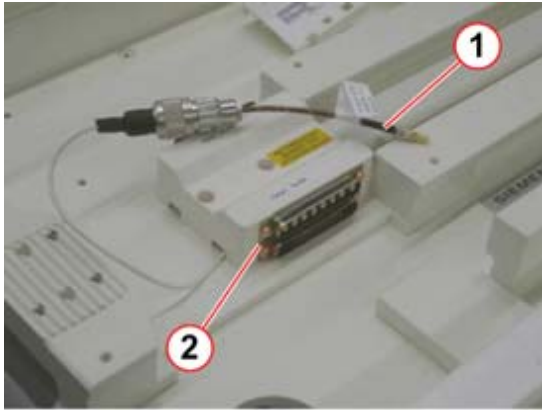

Fig. 37: Additional coax cable has to be connect to position of the plug
- If you have an older typ of patient table the additional coax cable (1/Fig. 37 / p. 42) (delivered with the table top spare part) has to be connected to the plug (2/Fig. 37 / p. 42), by unscrewing the plug cover, on new type of table tops the adapter will not be used.